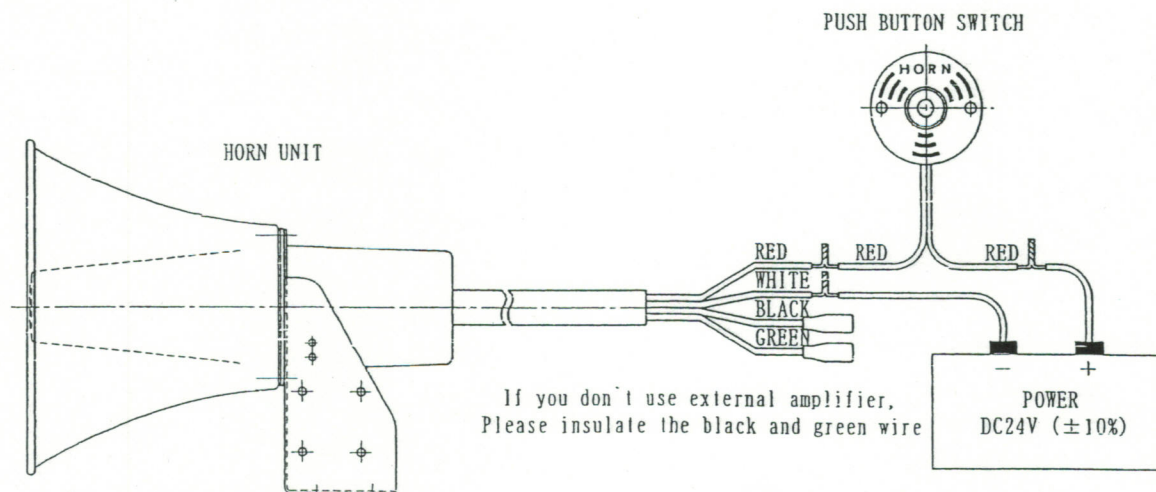

Fig. 1 Connection outline figure
b) The cable pulled out from the electronic horn rear, is that the red cable becomes(+), the white cable becomes (-). Connect the push button switch as the Fig.1. Ensure insulated processing of the cable end.